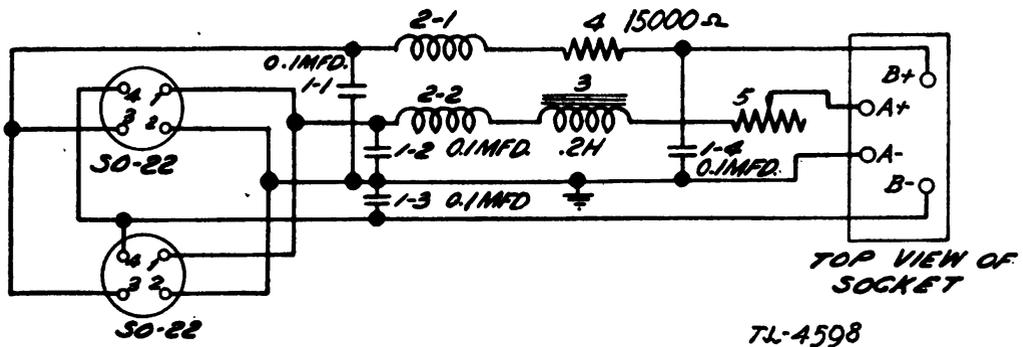

FIGURE 20.—Filter FL-10—schematic diagram.
13. Filter FL-10.—The circuit of filter FL-10 (figs. 20 and 35) is essentially that of two low-pass filters which provide smoothing of the receiver filament and plate supply voltages so that objectionable hum and noise from the hand generator may be eliminated. R-f choke coils 2-1 and 2-2 tend to block the radio-frequency component of this noise from reaching the receiver plate and filament circuits, respectively. Capacitors 1-1, 1-2, 1-3, and 1-4 tend to further reduce this noise by bypassing it. Audio choke coil 3 is included to reduce the audio-frequency component of the generator ripple on the receiver filaments. Resistor 4 in series with the plate supply of the receiver drops the hand generator high voltage to approximately 90 volts. Another resistor, 5, in the filament circuit is used to reduce the voltage on the receiver filaments to $1\frac{1}{2}$ volts.